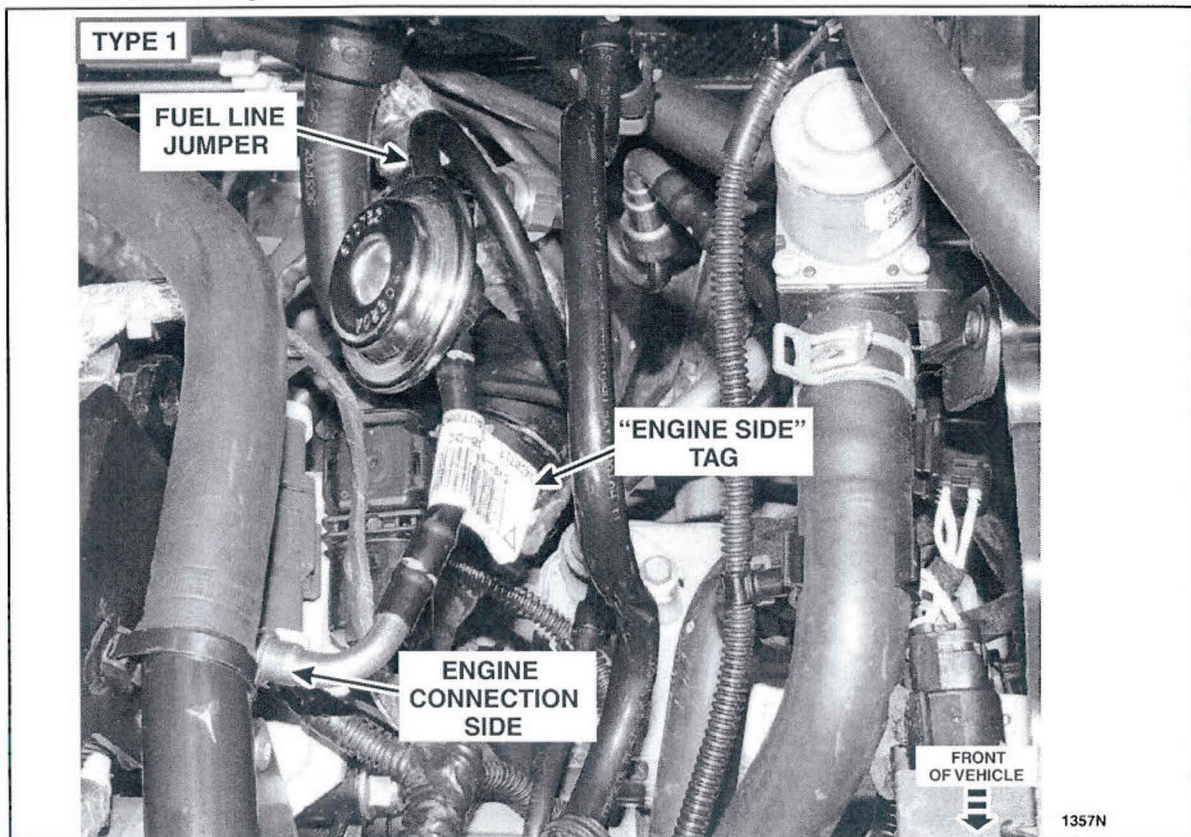

FIGURE 2
5. Inspect the fuel line jumper orientation. See Figure 2, 3, and 4.
For all three of these line types, the correct installation is with the white "ENGINE SIDE" tag on the line closest to the engine connection side. See Figure 2, 3, and 4, for examples of correct installations.